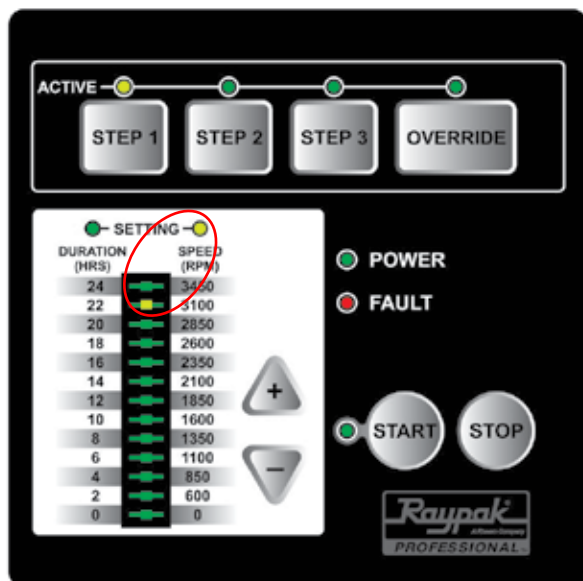

Figure 4
Four programmable buttons lay across the top of the Keypad (overlay). (See Figure 4 - shows the speed being set at 3100 RPM.) The LED directly above each button when lit indicates it is in operation or active. To create a custom schedule and change the factory defaults settings, follow these steps:
3. Using the UP (+) or DOWN (-) arrows, toggle to the desired speed. The Bar graph will show the setting as you toggle up and down. (See Figure 4 - shows the speed being set at 3100 RPM.)